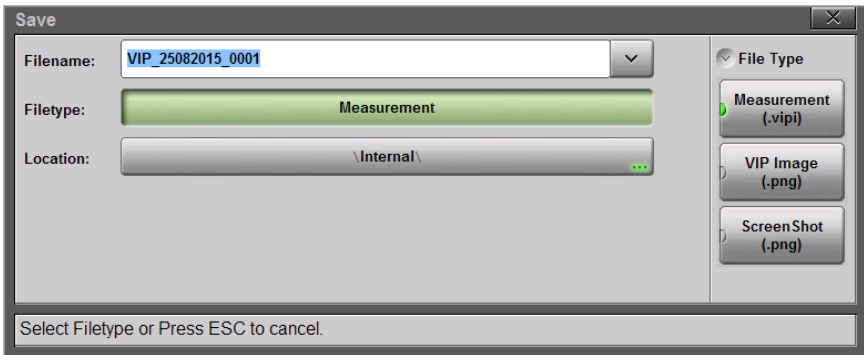

Figure 15-7. VIP File Type
10. To select the type of file to save, press the Filetype button, then press the desired submenu key. See Figure 15-7.